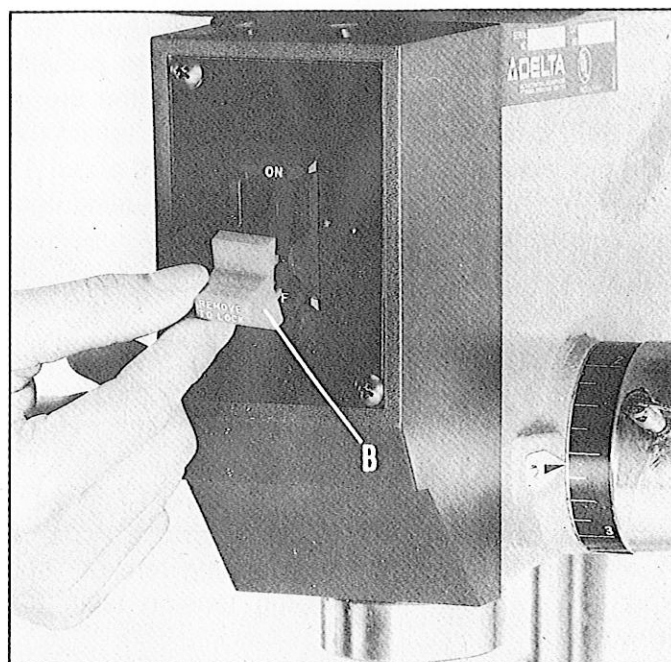

Fig 27
We suggest that when the drill press is not in use, the switch be locked in the "OFF" position. This can be done by grasping the switch toggle (B) and pulling it out of the switch, as shown in Fig. 27. With the switch toggle (B) Fig. 27, removed, the switch will not operate. However, should the switch toggle be removed while the drill press is operating, the switch can be turned "OFF" once, but cannot be restarted without inserting the switch toggle (B) Fig. 27.